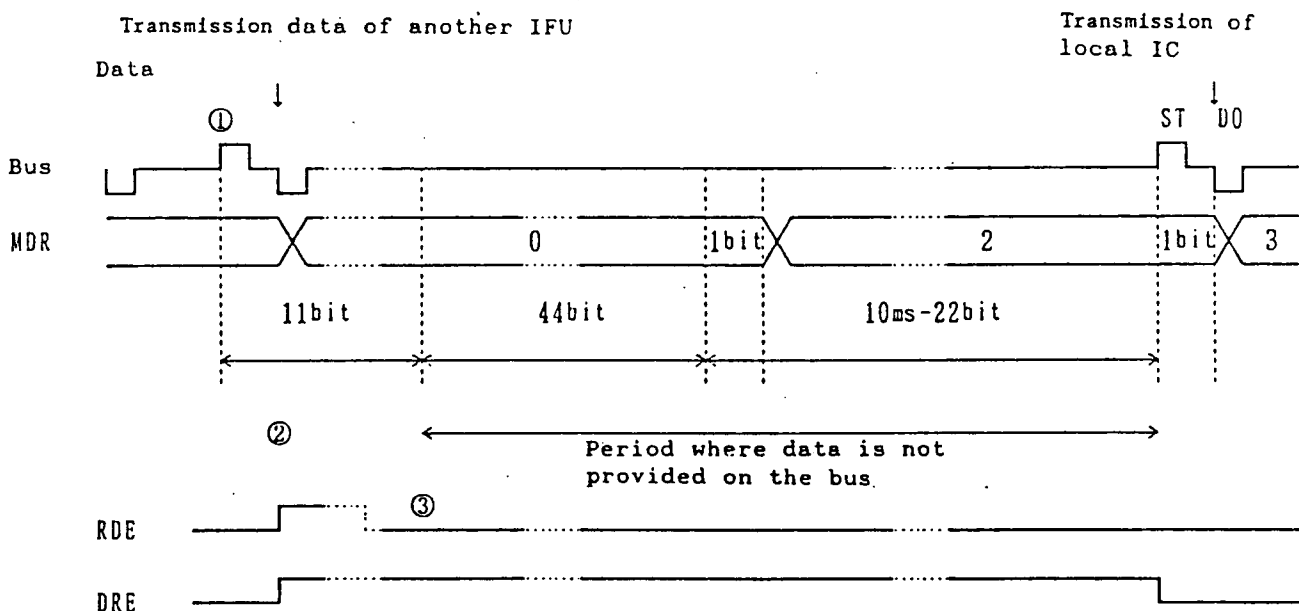

Figure 4.9 When the message is larger than the message length
Figure 4.9 shows a case that the message is larger than the message length and 1 byte of data is additionally contained. (Figure 4.9 ①) Therefore, the received data error is set to "1". (Figure 4.9 ②)
Sending is not performed in the synchronization recovery period even though transmission data has been set. Data is sent after synchronization recovery. (Figure 4.9 ④)
As shown in Figure 4.9, the state counter (MDR) changes from 0 to 2 in the synchronization recovery period.